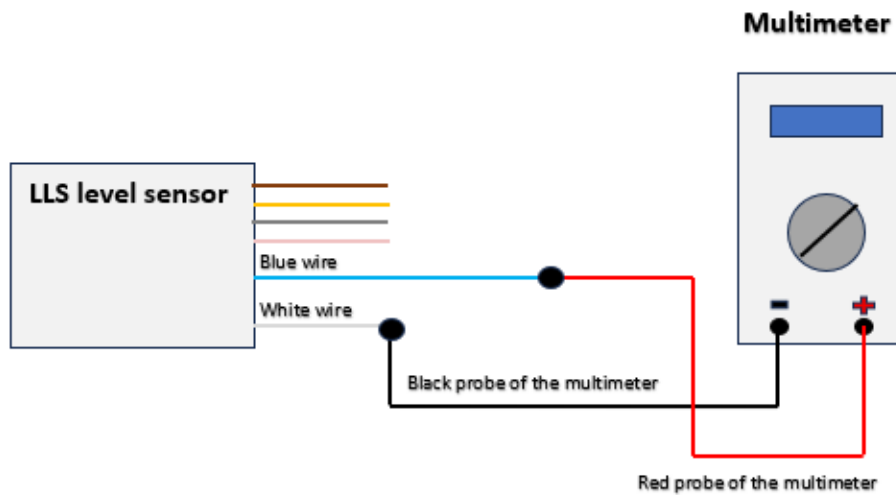

Fig. 5 Connection Diagram
2. Assemble the connection circuit according to "Fig. 5 Connection Diagram".